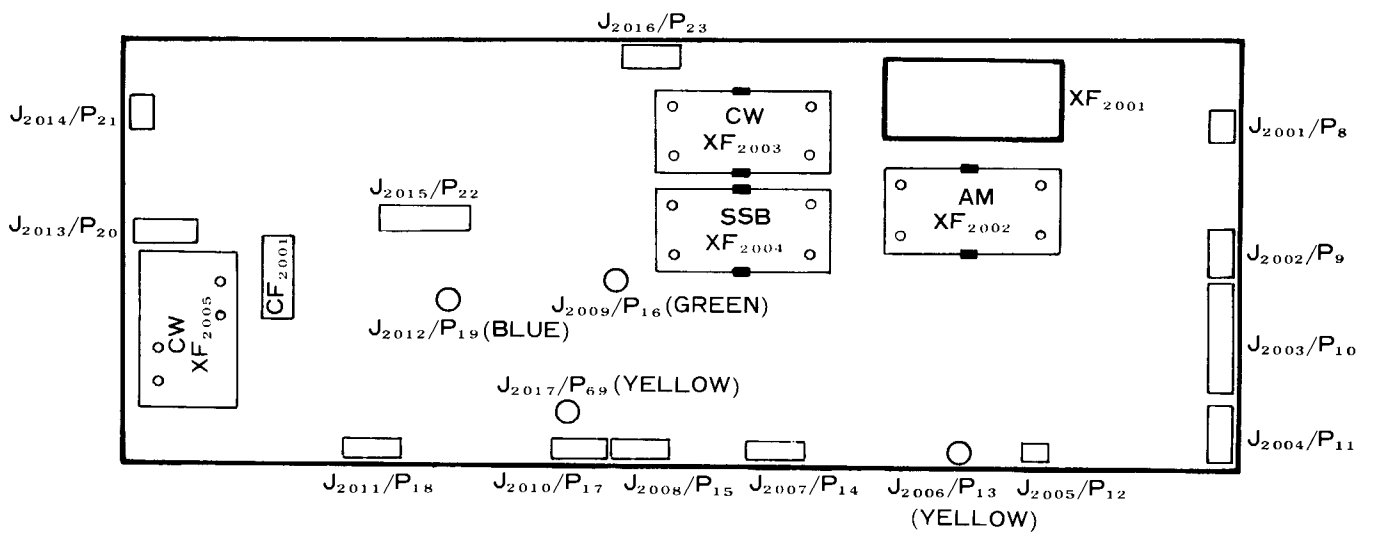

Figure 5
3. Lay the FT-102 on its right side so that, by carefully lifting the edge of the IF Unit, the solder side of the board can be accessed. It may be necessary to disconnect some of the connectors, in which case refer to Figure 5 and take careful note as to where each should be replaced.
6. Reconnect any connectors removed from the IF Unit according to Figure 5, and replace the six screws holding the IF Unit in place.